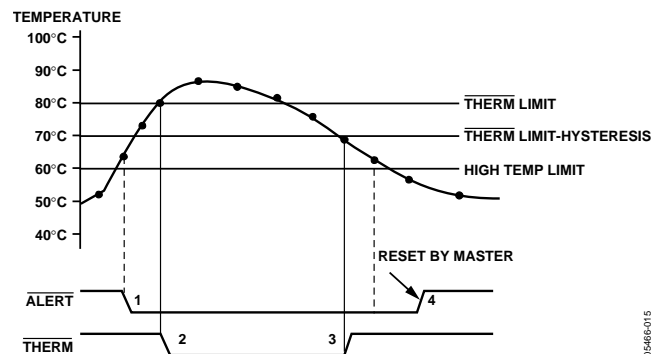

Figure 20. Operation of the $\overline{\text{ALERT}}$ and $\overline{\text{THERM}}$ Interrupts
Figure 20 shows how the $\overline{\text{THERM}}$ and $\overline{\text{ALERT}}$ outputs operate. A user may wish to use the $\overline{\text{ALERT}}$ output as a SMBALERT to signal to the host via the SMBus that the temperature has risen. The user could use the $\overline{\text{THERM}}$ output to turn on a fan to cool the system, if the temperature continues to increase. This method would ensure that there is a fail-safe mechanism to cool the system, without the need for host intervention.
- The $\overline{\text{THERM}}$ output de-asserts (goes high) when the temperature falls to $\overline{\text{THERM}}$ limit minus hysteresis. In Figure 20, the default hysteresis value of 10°C is shown.